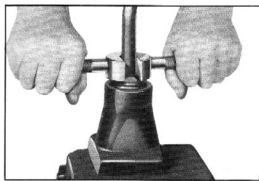

Fig. 18—Removing Gearshift Lever—Conventional Model
2. To remove the gearshift lever, slide the open side of K-353 gearshift lever remover, shown in Fig. 18, over the lever, engage the lugs in the